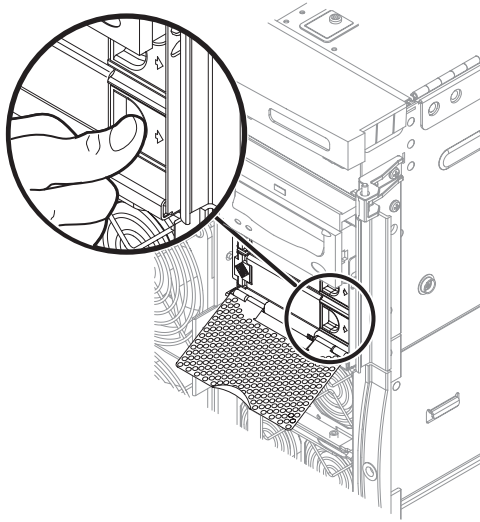

FIGURE 6-2 Releasing the Hard Disk Drive Ejector Handle
7. Open the drive handle by pushing the latch to the right (FIGURE 6-2).